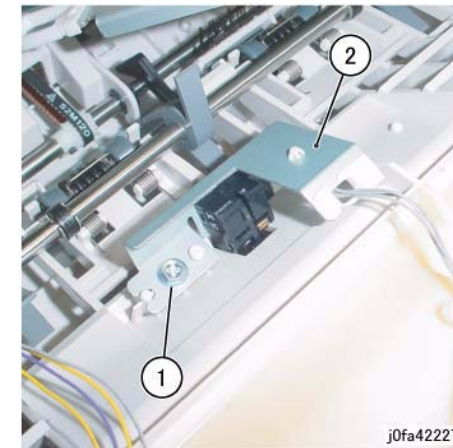

Figure 3 Removing the Compiler Exit Sensor Assembly
8. Remove the Compiler Exit Sensor Assembly (Figure 3):